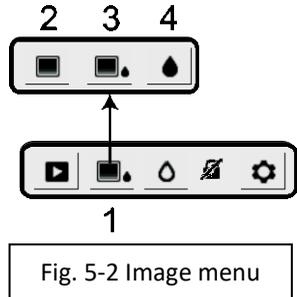

Fig. 5-2 Image menu
Press the Select button to access the Main Menu and then select the IMAGE mode icon (1). Refer to Fig. 5-2. Choose Thermal IR Image-only mode (2), IR + IGM Moisture mode (3), or Moisture-only mode (4). Each mode is described below.